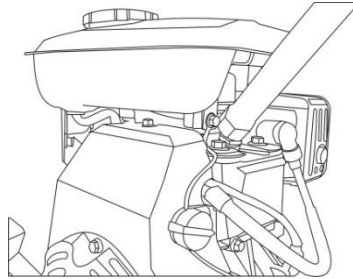

Fig. 18
4. Check if the spark plug gasket is in good conditions, or replace with a new one. Screw on the spark plug to the bottom first by hand to prevent cross – threading (Fig. 18)